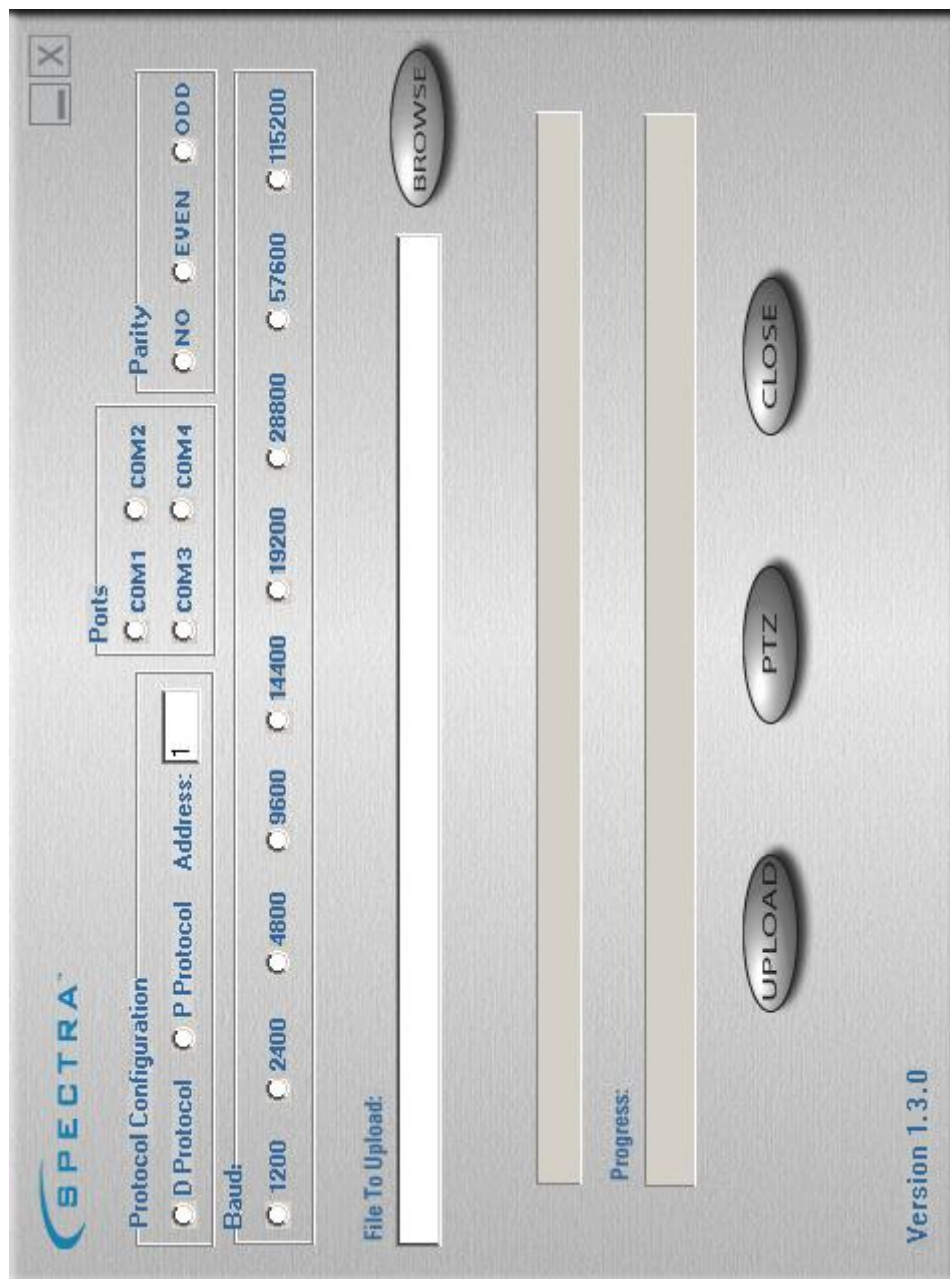

Figure 2: Main screen of the downloader for rev 1.3.0
2. The next Downloader screen is in shown in Figure 2, page 9. Here support for different baud rates, three types of parity and one of four different COM ports was added in. The parity and baud rate support was added in to support the TXB-Hernis board. The indicated baud rates are: 1200, 2400, 4800, 9600, 14400, 19200, 28800, 57600 and 115200. There is an error here in that MicroSoft does not support 28800 as a “standard” baud rate. MicroSoft does have an option for a user specified speed, but that option was not used in the downloader software.